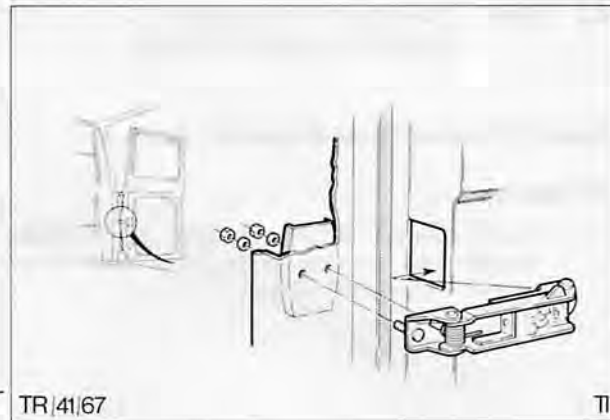

Fig. 55. Rear door check strap assembly
2. Remove two retaining nuts and washer assemblies and detach check strap, Fig. 55.